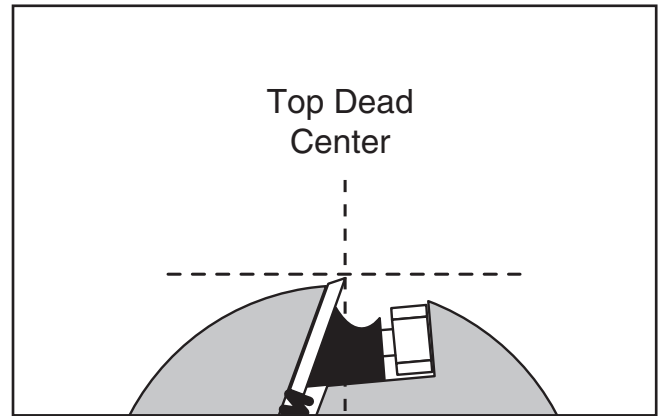

Figure 14. Cutterhead knife at top-dead center.
2. Rotate the cutterhead pulley until one of the knives is at top-dead-center (TDC), as illustrated in **Figure 14**.